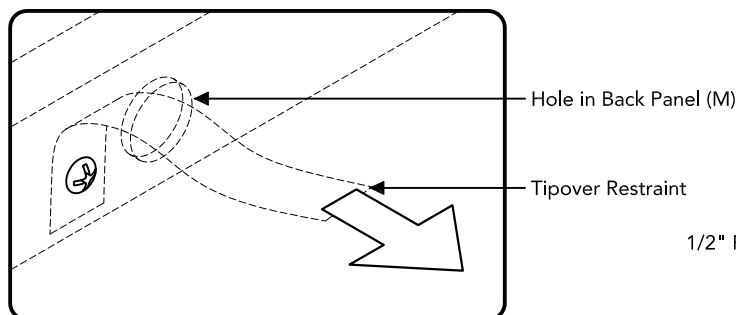

Figure 5
Move unit back into place and insert Tipover Restraint into unit through hole in Back Panel (M). (See Figure 5)